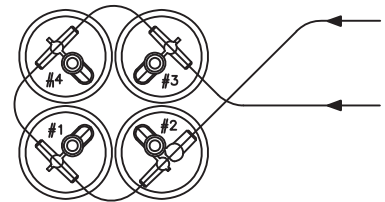

Figure 6-3. Tubing Connections
7. Attach the gas cup to new sensor, making sure that when the sensor is plugged into analyzer's main board, the tubing connections on top of gas cup are aligned as shown in Figure 6-3 on page 6-4.
11. Attach the gas cup to new sensor, making sure that when the sensor assembly is plugged into the analyzer's main board, the tubing connections on top of gas cup are aligned as shown in Figure 6-3 on page 6-4.